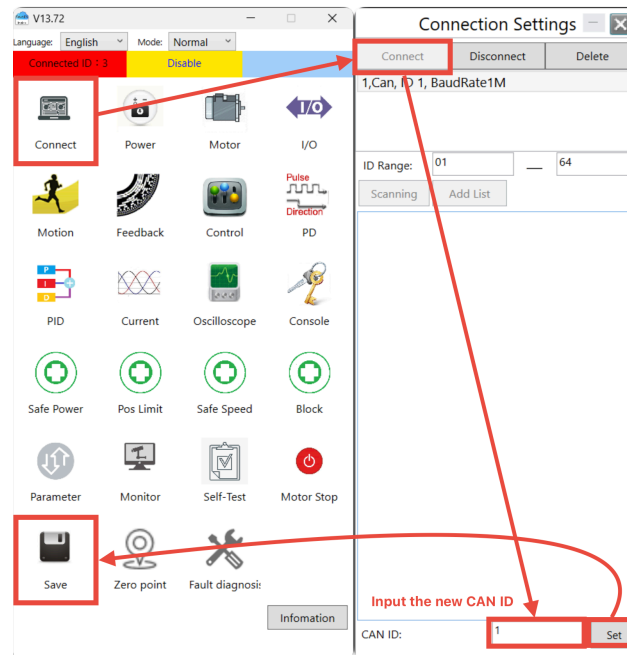

Figure 26-1 CANID modification steps
- (1) Check the wiring between the eRob CAN interface and the eRob to PC Connector, and the wiring of the CAN interface between the eRob rotary actuators (please refer to Chapter 14). Make sure the wire correspondence is in sequence and the wires are conductive.
- (2) Power off the eRob, and use the eRob to PC Connector to connect each eRob respectively. Then power on the eRob, connect to the host computer, and open the “Connection Settings” interface. Reset CANID (The steps are shown in Figure 26-1) to make sure the ID of each rotary actuator is unique.
- (3) Power off the eRob, and re-cascade the CAN bus networking (refer to Section 6.2). Then power the eRob and open the connection interface in the host computer to reconnect the test
- (1) Check the wiring between the CAN interface of the eRob and the eRob to PC Connector, and the wiring of the CAN interface between eRob rotary actuators (please refer to Chapter 13 and Section 6.2). Make sure the wire correspondence is in sequence and the wires are conductive.
- (2) Power off the eRob, and use the eRob to PC Connector connect each eRob respectively. Then power the eRob, connect to the host computer and open the “Connection Settings” interface. Reset CANID (The steps are as shown in Figure 26-1) to make sure the ID of each rotary actuator is unique.
- (3) Power off the rotary actuator, and re-cascade the CAN bus networking (refer to Section 6.2). Then power the eRob and open the “Connection Setting” interface in the host computer to reconnect the test.